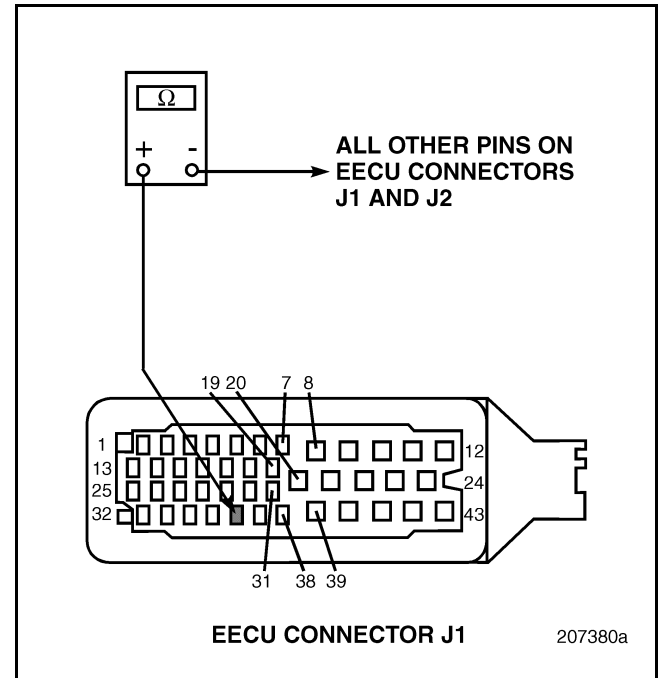

Figure 171
4. Check for continuity between EECU harness connector J1 pin 36 (reference voltage line) and all other pins in EECU harness connectors J1 and J2 (see Figure 171).